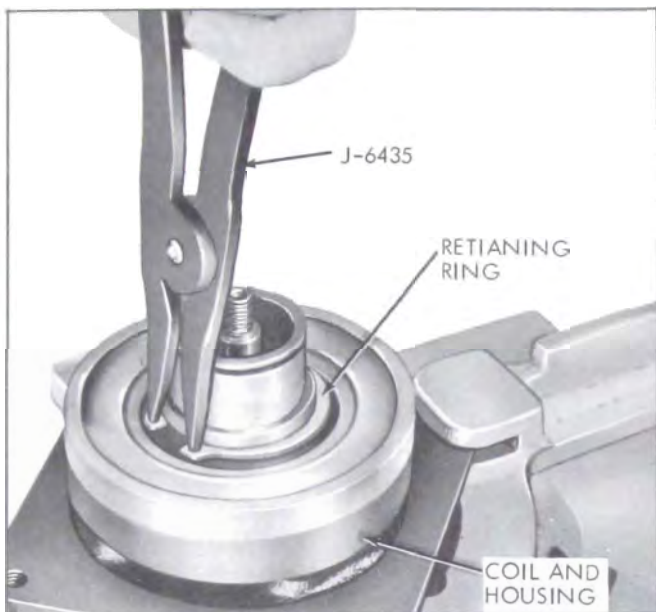

Figure 11-48—Removing Coil and Housing Retaining Ring
4. Use J-6435, No. 26 Truarc pliers and remove coil housing retaining ring, then remove coil assembly. See Figure 11-48.